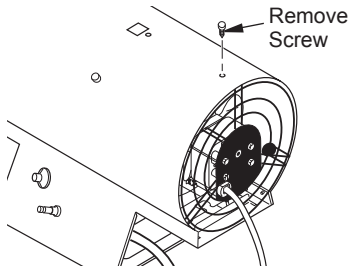

Figure 3 - Removing Screw from Top of Fan Guard
1. Remove screw from top of fan guard (see Figure 3). Discard screw.
3. Place handle over hole and clip. Insert two screws (provided with handle) through handle and tighten into shell (see Figure 3). Make sure rear screw goes through shell and into fan guard. Tighten screws firmly.